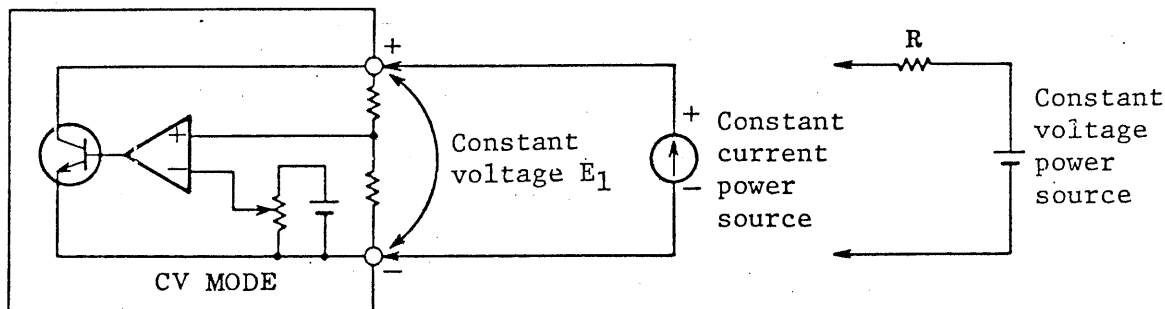

Figure 2-9-1
1. This mode is available by applying a constant current power source to the DC INPUT terminals with the shunt regulator method. This mode is used mainly for tests and adjustments of the current limit characteristics of a DC constant voltage stabilizing power source having power capacity of 300 W or less. Fig. 2-9-1 shows the basic circuit diagram.
As shown by the Fig. 2-9-1, connecting a constant voltage power source, to which a constant current power source or an impedance is connected in series, a shunt regulator is constituted. The value of the constant voltage  $E_1$  may be varied within the range of 5 V - 60 V DC with use of the CV dial. A yellow LED will be lit during the CV mode. The operating method for the constant voltage mode is explained below: